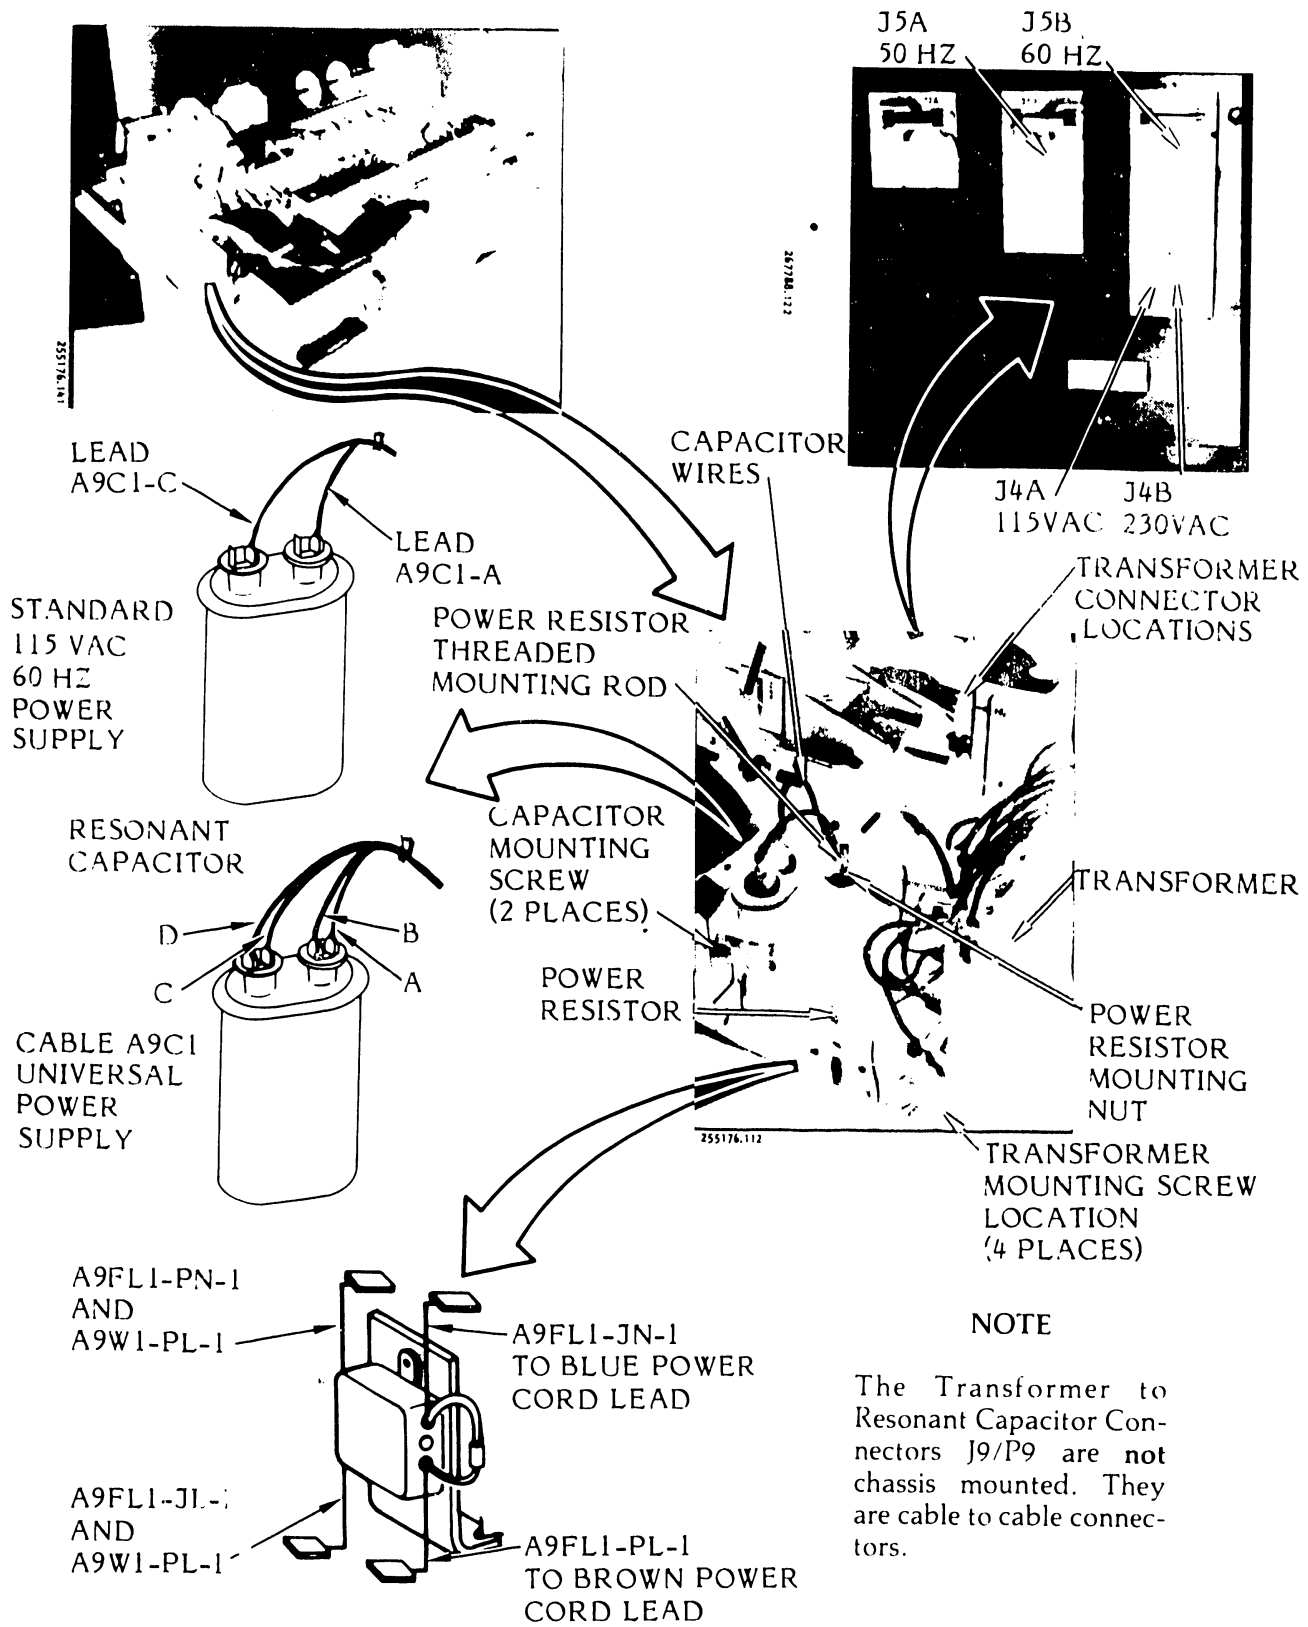

Figure 3-122. Power Supply Components Removal/Installation
3.7.50 Power Supply Components Removal/Installation (Figure 3-122)
2. Unplug the transformer wiring harness from the Rectifier CCA and the resonant capacitor (see figure 3-122).
3. Plug the transformer cable into the appropriate connectors of the Rectifier CCA (see figure 3-122 and table 3-12).
4. Connect the transformer harness push-on terminals to the resonant capacitor (see figure 3-122).
- 2. Connect the transformer harness push-on plugs to the capacitor terminals (see figure 3-122).
- 2. Feed the assembly wiring cable along the bottom of the power supply chassis and plug it into the Rectifier CCA at A9J6 (see figure 3-122).
- 1. Connect the assembly wire leads to the AC power leads (see figure 3-122).